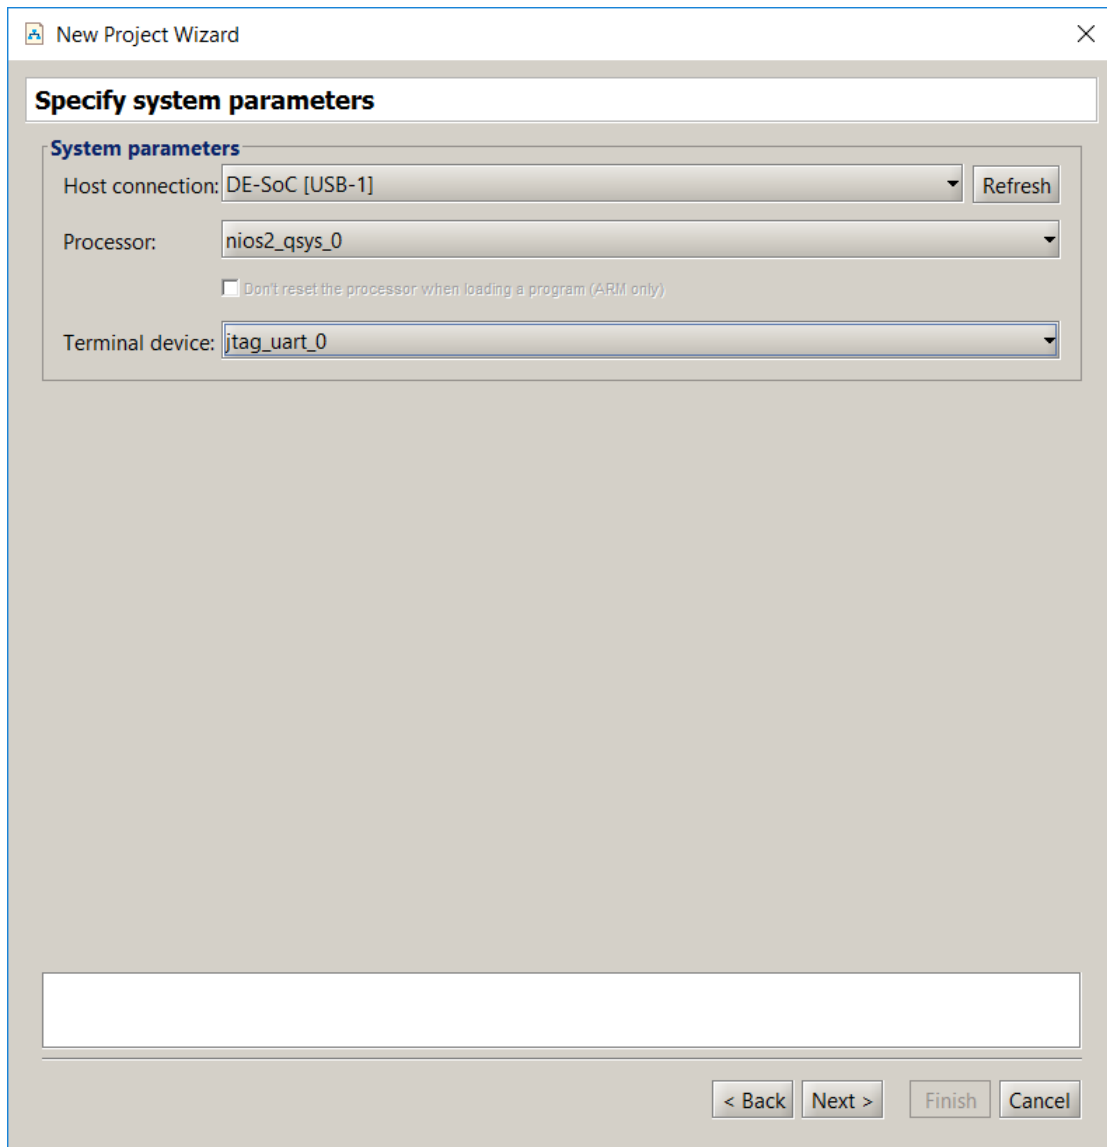

Figure 30. Specify the system parameters.
7. In the window in Figure 30, ensure that the Host Connection is set corresponding to your target board. Here, we are using the DE1-SoC board, and so have set it to *DE-SoC*, the Processor is set to *nios2\_qsys\_0* and the Terminal Device is set to *jtag\_uart\_0*. Click Next.